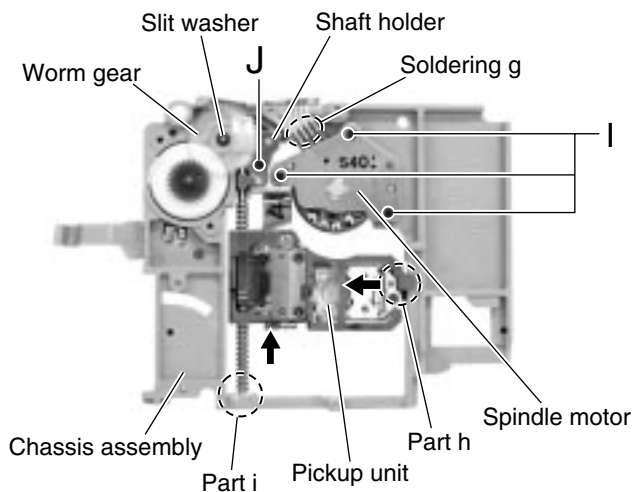

Fig.11
(See Fig.11)
■ Removing the pickup unit (See Fig.11)